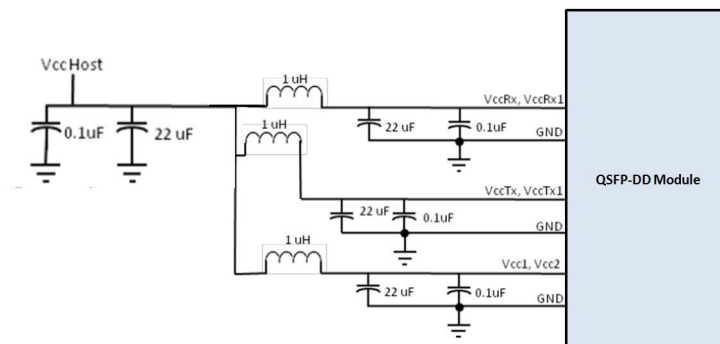

Figure 4 Recommended Power Supply Filter
[6] Receiver sensitivity ( $OMA_{outer}$ ) is informative and is defined for a transmitter with a value of SECQ up to 3.4 dB. Receiver sensitivity should meet Equation (1), which is illustrated in Figure 4.